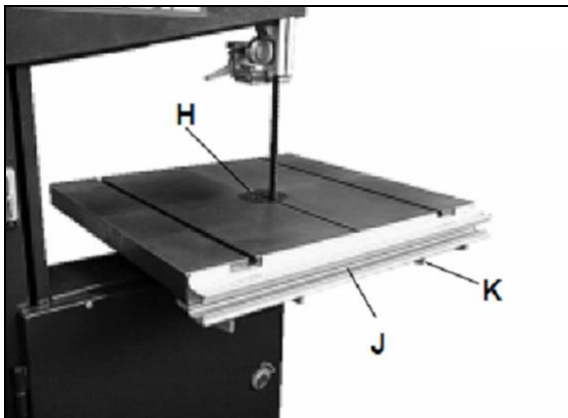

Fig 6
To fit the Rip Fence Guide (J, Fig 6) attach it to the front edge of the table with the four winged screws and washers supplied (K). This will be adjusted later.